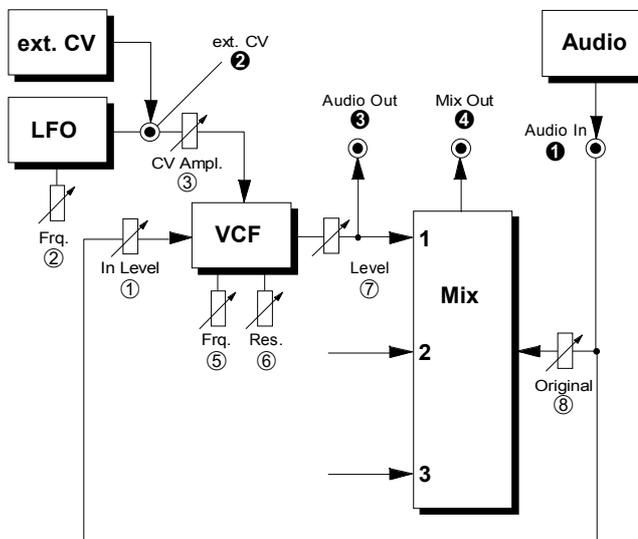

**fig. 1:** Frequency response of a band-pass filter with lower (on the left) and higher resonance
The A-127 is a triple resonant filter containing three band-pass filters each with controllable filter frequency  $f_M$ , resonance and amplitude. What a band-pass filter does is to attenuate signals in frequency ranges both above and below the filter frequency - referred to here as the middle frequency - resulting in a bell-shaped response curve (see fig. 1). In this way, a particular part of the audio spectrum can be singled out.
band let through, and the Audio Level control to set the volume (see fig. 1).
The module is set up at the factory so that attenuator ① doesn't have any effect on the Original signal level ⑧, so the effected sound (3 Filters) and "Original" sound can be controlled separately, by ① and ⑧ respectively (see fig. 1). It's possible to change this by altering a jumper on the mixer circuit board (see chapter 7, Appendix), so that both the levels (Filter + Original) can be controlled by attenuator ① .
Control ⑥ is used to set the **filter resonance**. The higher this control is set, the narrower the **bandwidth** of the bandpass effect (see fig. 1).
The module is set up at the factory so that attenuator ① doesn't have any effect on the Original signal level ⑧, so the effected sound (3 Filters) and "Original" sound can be controlled separately, by ① and ⑧ respectively (see fig. 1). It's possible to change this by altering a jumper on the mixer circuit board (see chapter 7, Appendix), so that both the levels (Filter + Original) can be controlled by attenuator ①.